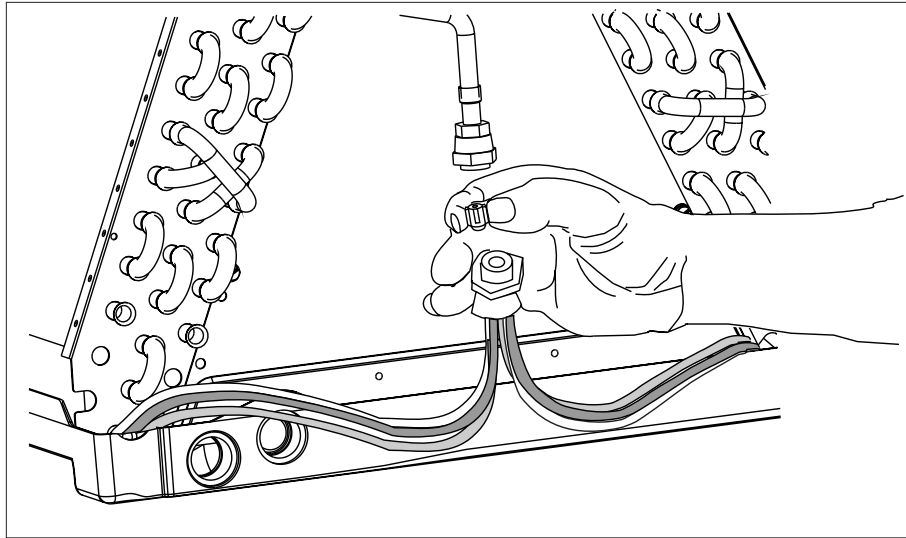

Figure 5. Orifice Insertion in Distributor Body
5. Insert the new orifice in the distributor body **rounded end down** as shown in Figure 5.